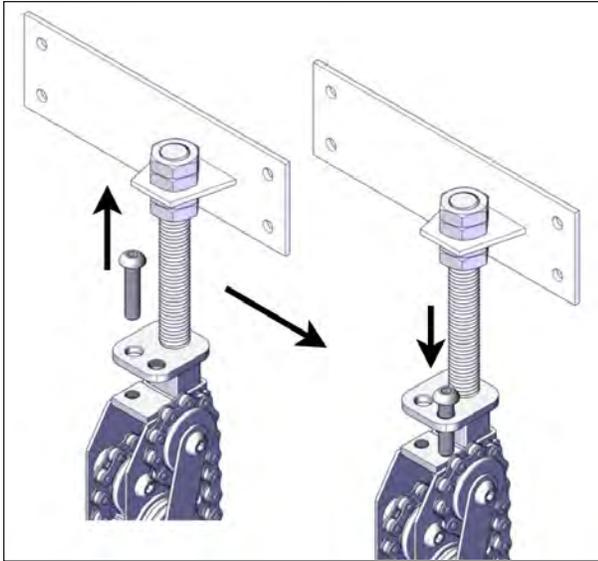

FIGURE 95: JACK LOCKING SCREW REMOVAL
7. Once the U-frames are installed, the jack lock screw located at the top of non-motor side jacks can now be unlocked safely. Remove the M8 x 35 mm locking screw and reinstall it in the hole next to it so you don't lose it. Remove the screw on both non-motor jack. You can remove the red tags on the non-motor jacks see Figure 95.